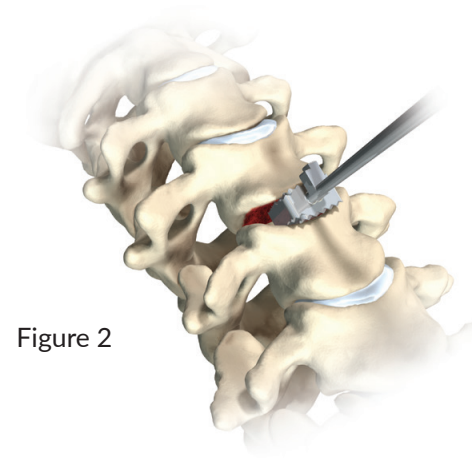

Figure 2
- Rasps are available for removal of the endplate material (Figure 2).